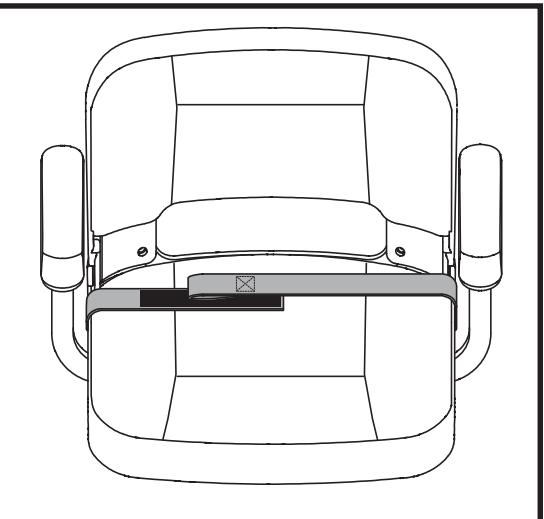

Figure 29. Positioning Belt - Reusable Hook and Loop Fastener Style
1. Align the two sides of the belt placing the looped-end side directly above the coarser side (“hook”) of the opposite belt. Press firmly together to fasten. See **figure 29**.